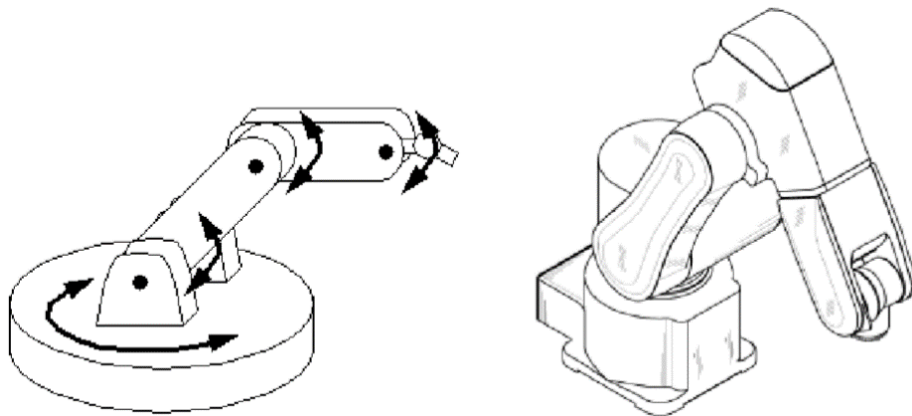

Figure 1- Sample Robot Arm
1. Robotic arm should have minimum 4 degrees of freedom (DoF). The number of DoF can be increased optionally (sample robotic arm is shown in figure 1)